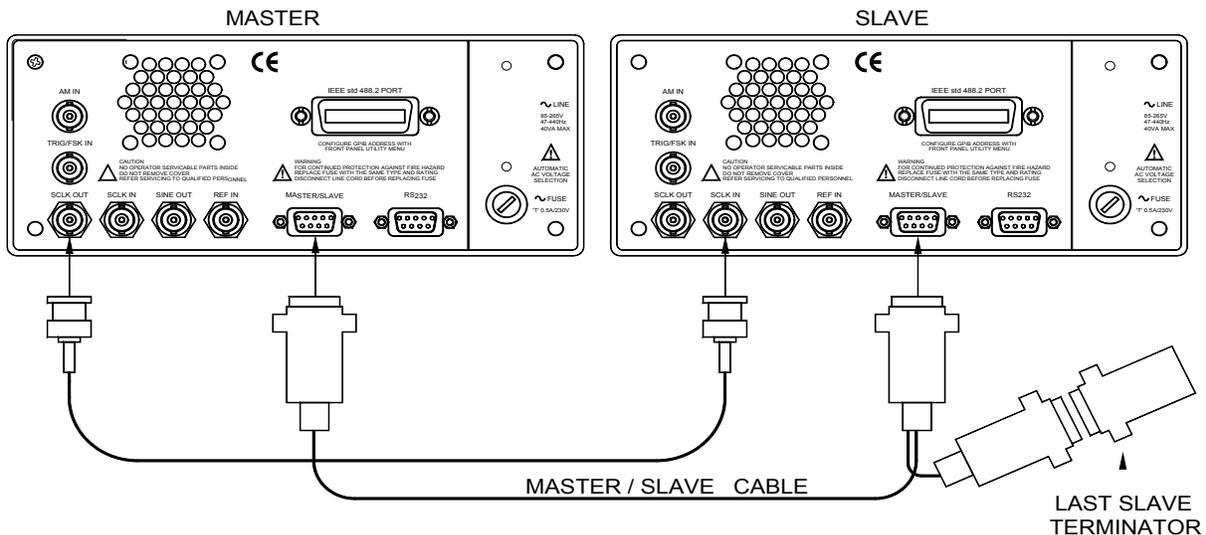

Figure 3-27. Wiring Diagram Master to Slave
Connecting multiple instruments in master/slave configuration is extremely easy. All you need is two types of cables, the first being a standard BNC to BNC coax cable to feed the sample clock output and a 9-pin to 9-pin cable to feed the master-to-slave, or slave-to-slave controls. You can get the standard BNC cable from any store however, the master/slave cable must be bought from your Tabor distributor. Figure 3-27 shows the connection between master and slave instruments. Additional slave units can be daisy-chained in a similar way. What you have to remember is that SCLK OUT feeds an adjacent SCLK IN. Also, always have the last slave unit in the chain terminated with the special 9-pin terminator.
1. Connect your instruments as shown in Figure 3-27. Make sure you designate the first instrument in the chain as master. Also make sure the last slave is terminated with the 9-pin terminator.